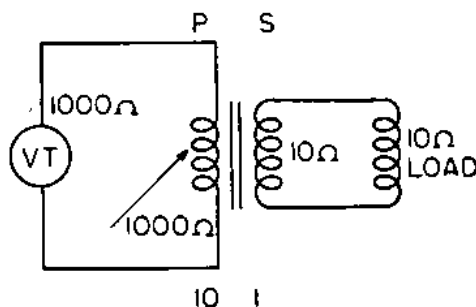

Figure 20.—Transformer used to match impedance between a vacuum tube and a load.
In figure 20, you are to use a transformer to match the impedance of a vacuum tube, to a 10-ohm load. The  $R_p$  of the tube is 1,000 ohms. To do this, the turns ratio between primary and secondary must permit the transformer primary to offer 1,000 ohms impedance to the vacuum tube, and the secondary to offer 10 ohms impedance to the load.
secondary from figure 20 in equation (4), the relationship becomes—